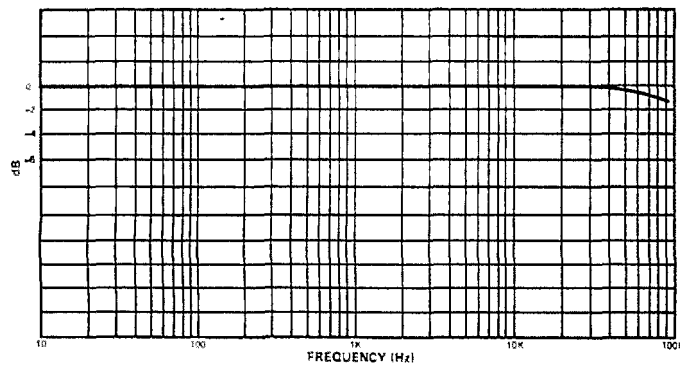

Fig. 16 - Frequency Response (Mono Mode) at 16Ω Load Impedance
**Frequency Response:** (Refer to Figure 16)